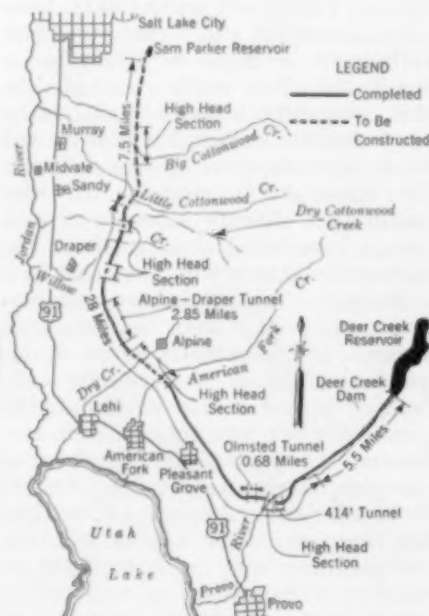

FIG. 1. SALT LAKE AQUEDUCT, PROVO RIVER PROJECT
**U**TAH's largest reclamation development, the Provo River Project, includes as one of its important features a 41-mile aqueduct (Fig. 1) to carry water from Deer Creek Reservoir in Provo Canyon to Salt Lake City. This will assure the city an adequate supply in times of drought and will meet the increasing demands of its growing population. The project will directly benefit residents of Utah and Salt Lake counties, or more than half the population of the state; it will provide for the storage and delivery of a supplemental water supply for 100,000 acres of farm lands and will furnish additional municipal and domestic water for the cities and communities adjoining the irrigated areas.
Over  $22\frac{1}{2}$  miles of reinforced-concrete pipe have recently been completed. Bids have been called and contracts recently awarded for the construction of  $4\frac{1}{2}$  miles of steel pipe to link the completed concrete-pipe sections of the aqueduct across high-head reaches (Fig. 1).